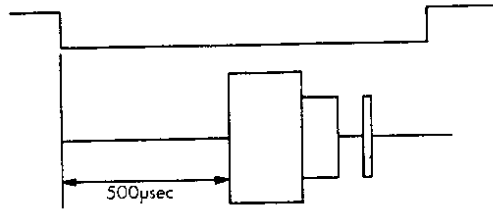

Fig. 5-1 Index burst waveform
- 5) Measure timing between sweep start and an initial data pulse. It should be 500 usec \pm 500 usec. When the timing is not within this range, proceed with the following adjustment. (Refer to Fig. 5-1).
- 8) Seek to the track OO and make sure that the timing is within 500 usec (\pm 300 usec). Tighten the screws. (Fig. 5-1).